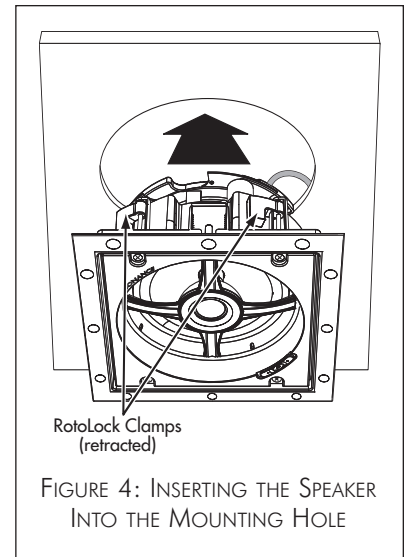

FIGURE 4: INSERTING THE SPEAKER INTO THE MOUNTING HOLE
4. Make sure all the RotoLock clamps are retracted so that they are tucked within the mounting hole's border. Insert the speaker into the hole in the ceiling (*Figure 4*). The RotoLock system can accommodate a maximum ceiling material thickness of 1¼".